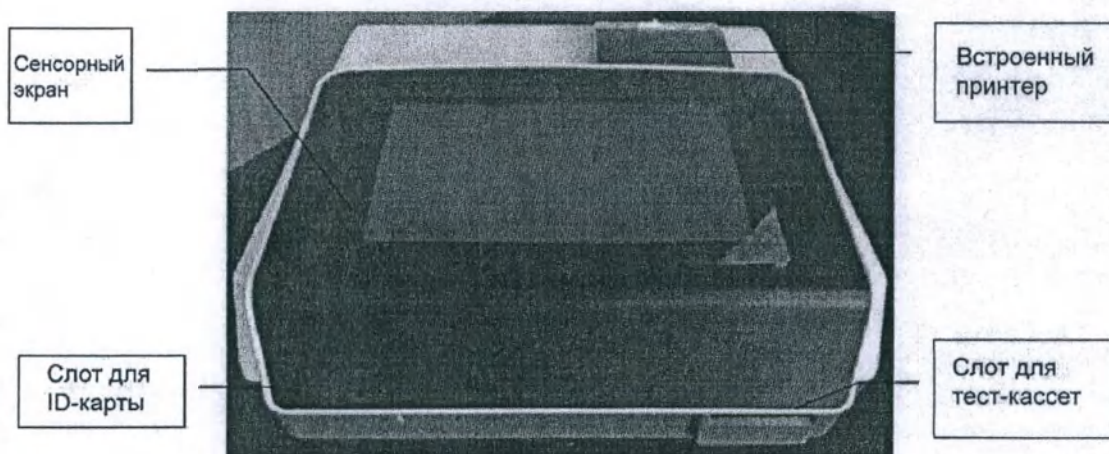

Figure 1 - Analyzer
3.1 The main functional parts of the Analyzer are shown in Figures 1 and 2.